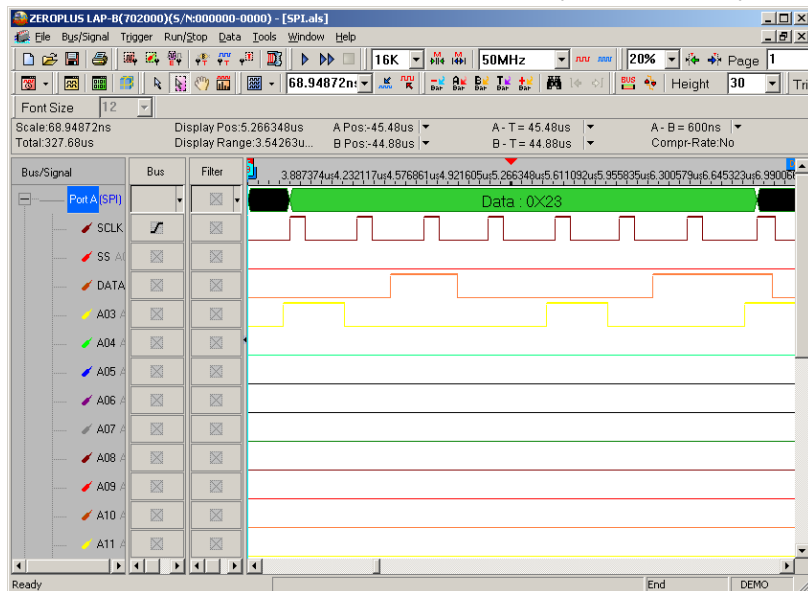

Fig 4-86 – SPI Signal
Step 6. Click **Run** to acquire the SPI signal from the tested SPI circuit. Refer to the Fig 4-86.